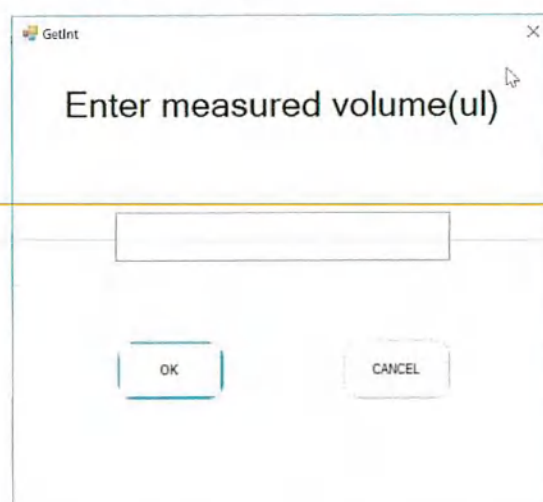

Figure 55
9.5.6.11 After dosing, the probe will move to its original position and a pop-up window will appear for entering the measured volume value [Figure 55].